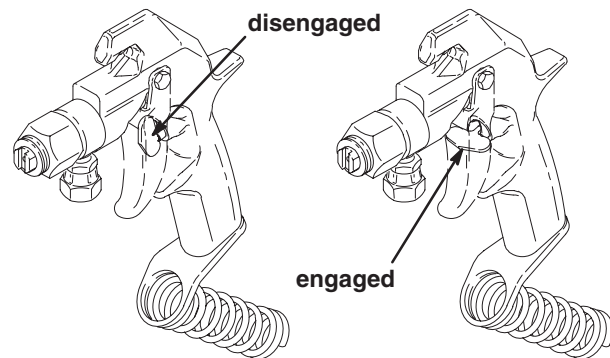
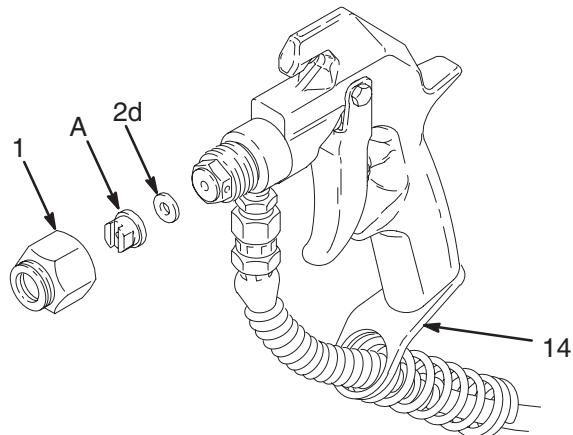

Fig. 1
Fig. 2
1. To engage the gun trigger safety latch, turn the latch (A) to a right angle with the gun body. See Fig. 1.
2. To disengage the trigger safety latch, push the latch (A) out and turn it parallel with the gun body.
2. Engage the trigger safety latch. See Fig. 1.
3. Guide the cannister hose through the hose guard (14), and connect the hose to the gun inlet.
4. Unscrew the tip nut (1), and install the tip (A) and the gasket (2d) in the tip nut. Tighten the assembly with a wrench. See Fig. 2.
2. Remove the tip nut (1), spray tip (A), and gasket (2d) (see Fig. 2).
2. Remove the hose, tip nut (1), spray tip (A), and gasket (2d) (see Fig. 2 on page 4).